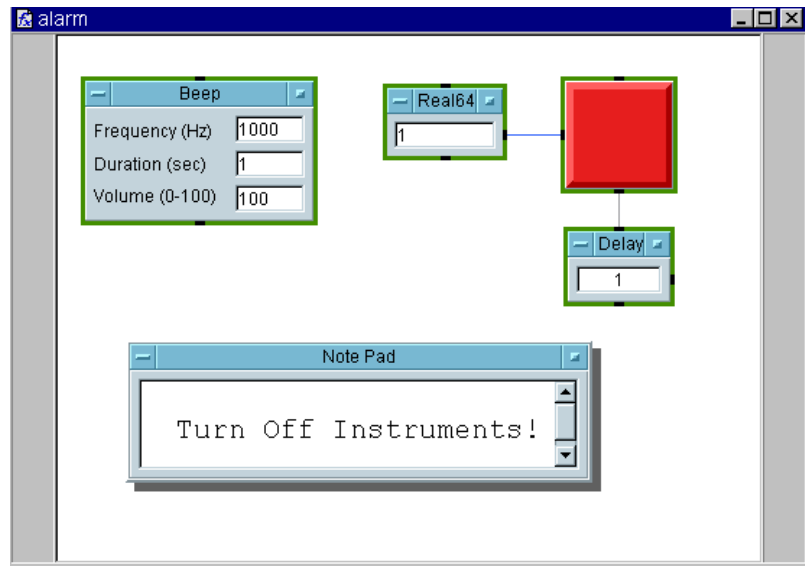

Figure 10-24. The UserFunction alarm (Detail View)
7. Go to the **Main** window. Click **Device** ⇒ **Call**, choose **Select Function** from the **Call** object menu, and select **alarm**. Run the program to test it. The detail view of the **UserFunction** **alarm** should look like Figure 10-24.